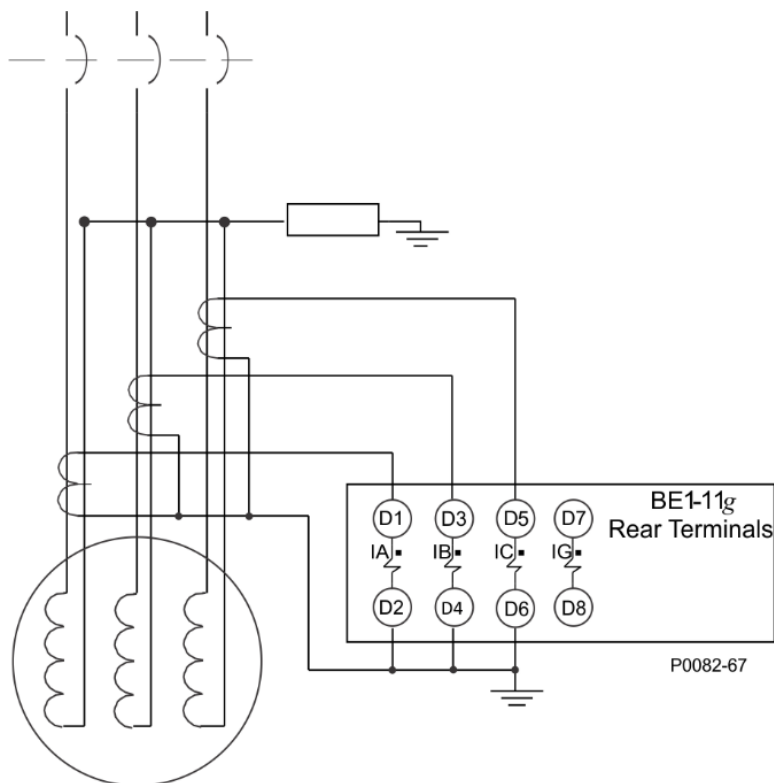

Figure 22-1. Flux-Balancing Connections
In a flux-balancing arrangement, the phase and neutral side of each phase of the winding route through a CT so the net flux is zero under normal conditions. See Figure 22-1. Typically, a three-phase Instantaneous Overcurrent (50) element provides flux-balancing protection.
Flux Balance Pickup setting (secondary A) on a per-phase basis to the current in CT circuit 1 (CT1). The link between CT1 and the Flux Balance mode is fixed in firmware; the flux balance circuit must be wired to CT circuit 1 (terminals D1 through D8 in Figure 22-1). The “Flux Balance” mode is equivalent to a three-phase 50 element. Ignore the Transient Monitor settings when configuring the differential element for Flux Balance mode.